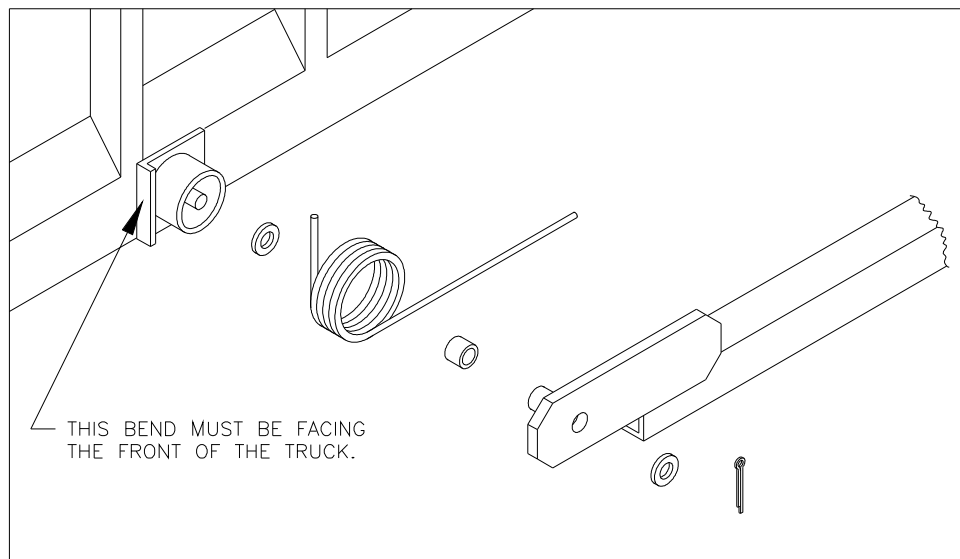

FIGURE 3
- 2) Weld the pivot mounts into place at the pivot point determined in step 1. **Note: The pivot mounts are directional.** (Figure 3 shows the drivers side pivot assembly. Ensure the bend on the pivot mount is towards the front of the truck.)
- 1) Assemble the lower arm unit using the included pivot mount washers, torsion springs, bearings, and cotter pins as shown previously in figure 3.